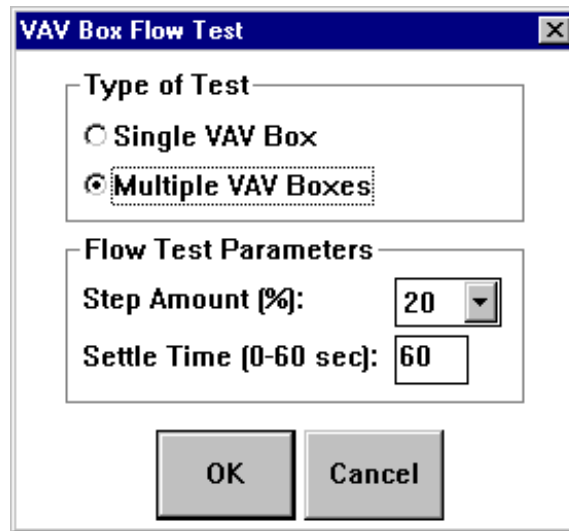

Figure 17-19: VAV Box Flow Test Window
1. On the Action menu, click VAV Box Flow Test. The VAV Box Flow Test dialog box appears (Figure 17-19).